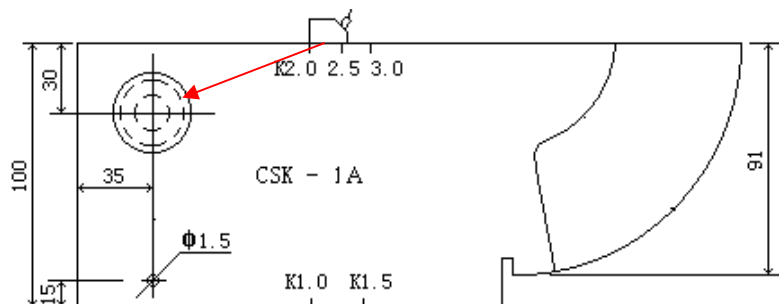

Figure 6-7 Angle Auto-Calibration of the Angle Probe
- (1) Make angle probe tightly coupled on the test block. Refer to Figure 6-7.